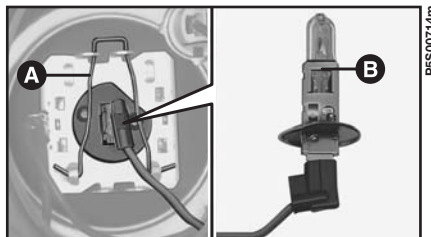

fig. 15
2) Unhook retaining springlet **A**-fig. 15, pull bulb **B** out and replace it.